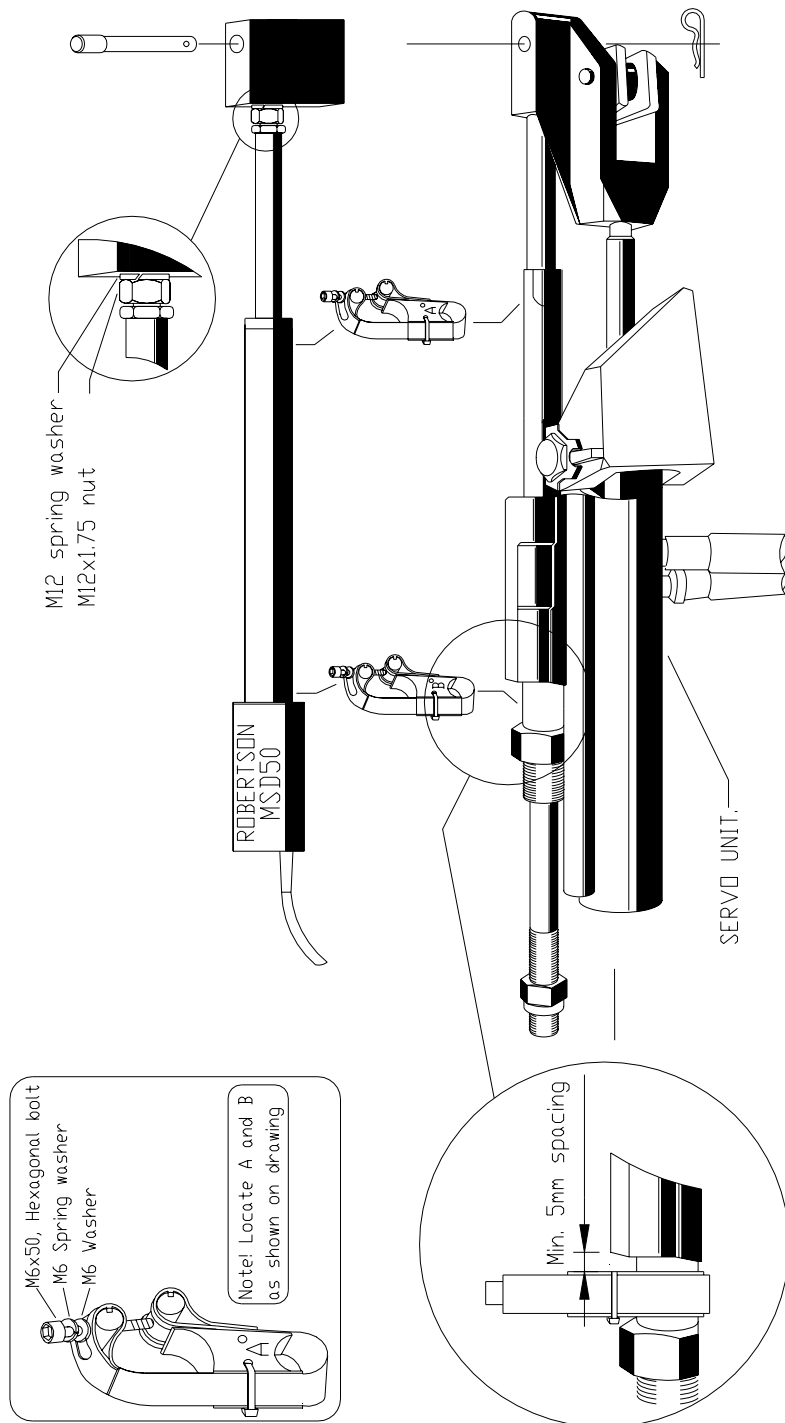

Figure 3
2. MSD50 to midposition. Mount the enclosed installation kit parts as shown on Figure 3.
Note that the two brackets are slightly different, and marked with letter "A" and "B". Letter "A" can easily be identified by a dent below the "A". See drawing on page 23. **It is very important that the two brackets are mounted to the stern drive as shown on Figure 2 and Figure 3.** Otherwise the unit will be damaged.